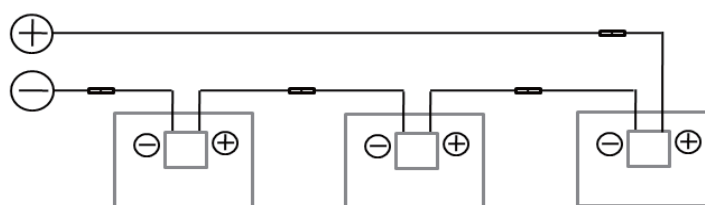

Fig. 9-1 Series Connection
- **The Direct Current (DC) generated by the PV system can be converted to Alternating Current (AC) and connected to the public power grid. Different regions may have different policies, laws and regulations to stipulate the installation and grid-connection requirements of PV systems. Therefore, during the design, installation and grid-connection of PV system, please comply with the local policies, laws and regulations.**
- **In order to ensure the normal running of the system, when connecting modules or loads, please ensure that the polarity of the cable connection is correct. If the modules are incorrectly connected, the bypass diodes and junction boxes may be damaged. PV modules can be connected in series (Fig. 9-1), in parallel (Fig. 9-2) and in series-parallel (Fig. 9-3). The number of serial or parallel connections shall be reasonably designed according to the system configuration. Also note that if the number of parallel connections ≥ 2 , there must be an over-current protection device on each string assembly.**